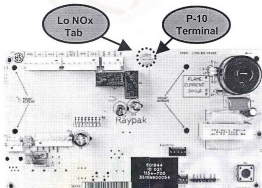
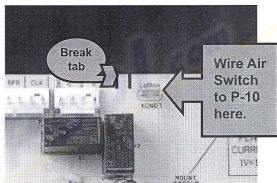

Fig. 12
Fig. 13
1. Locate Lo NOx tab and P-10 air switch terminal on the board as shown in Fig. 12 and Fig. 13.